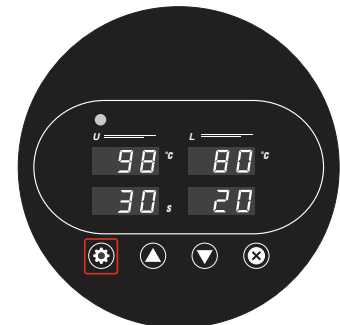

Fig. 3
3. Press Set **(G)** button again (Fig. 3) to go to the temperature setting mode for the bottom platen.